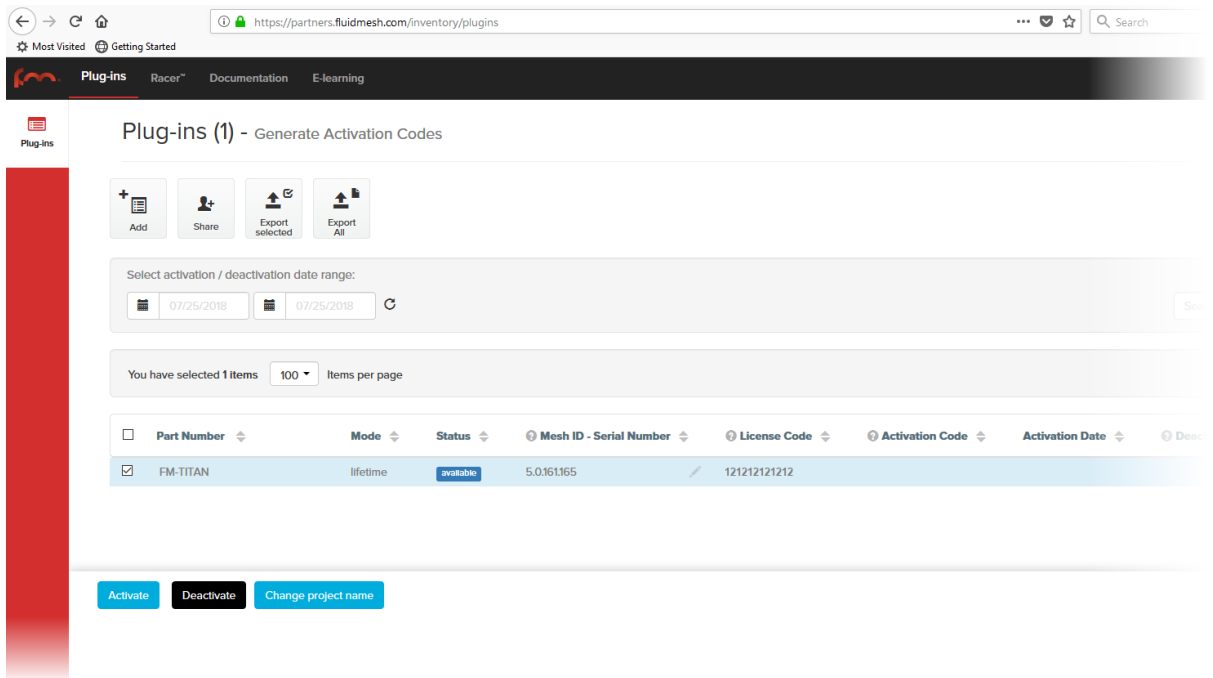

Figure 50. Partner Portal Plug-ins page (License code plug-in)
- When you purchase a generic 16-digit *License code*, the License code and corresponding plug-in will be listed on the Plug-ins page (Figure 50 \(page 106\)).